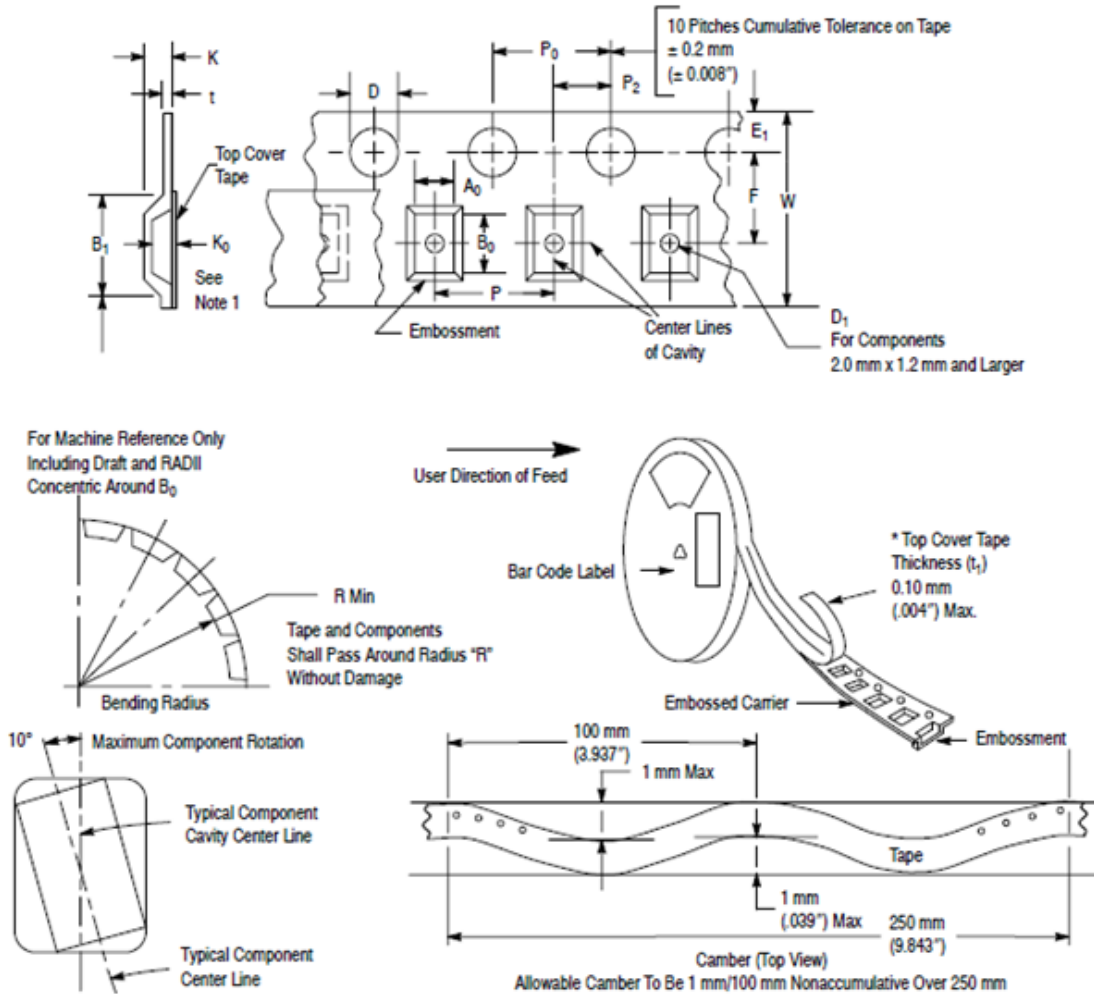

Figure 37. Tape-and-Reel Example
- Freescale complies with EIA-481D for carrier Tape-and-Reel configuration. See Figure 37.